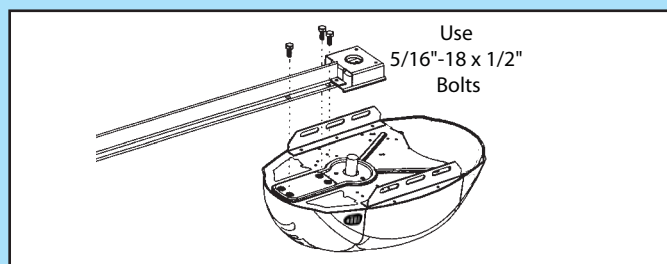

FIG. 1-4 Rail - Power head assembly.
1. Attach rail assembly to power head by aligning the sprocket onto the motor shaft. Use (3) bolts, 5/16"-18 x 1/2" (Fig. 1-4).